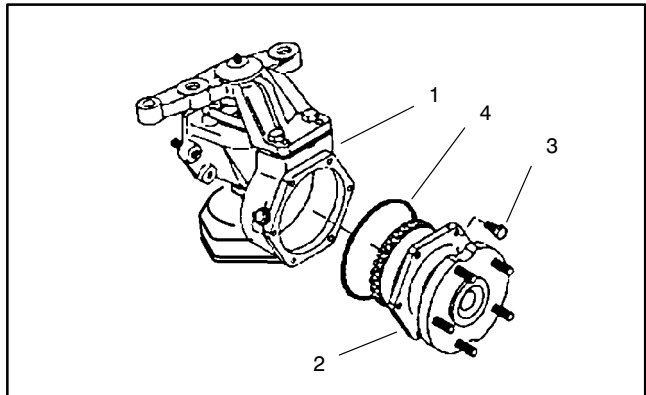

Figure 13
1. Remove the axle cover mounting screws. Remove the axle cover from the axle case as an assembly (Fig. 13).